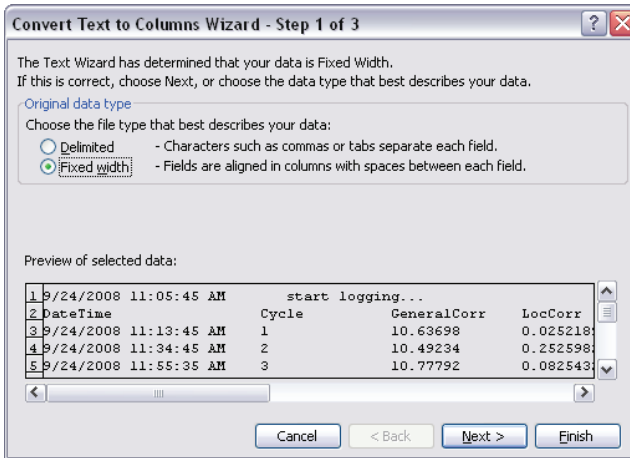

Figure 31. Text to Columns
- Select all of column A as seen in Figure 30, Select 'Data' > 'Text to Columns...' from the tool bar and the screen in Figure 31 will appear.
- Select Fixed width as seen in Figure 31 and then press Finish. The text data has now been transposed to the proper columns with the proper headings as seen in Figure 32. Adjust the column sizes to accommodate the data as needed.